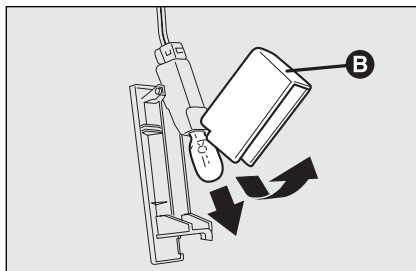

fig. 53
- open the protection **B**-fig. 53 and replace the snap-fitted bulb;